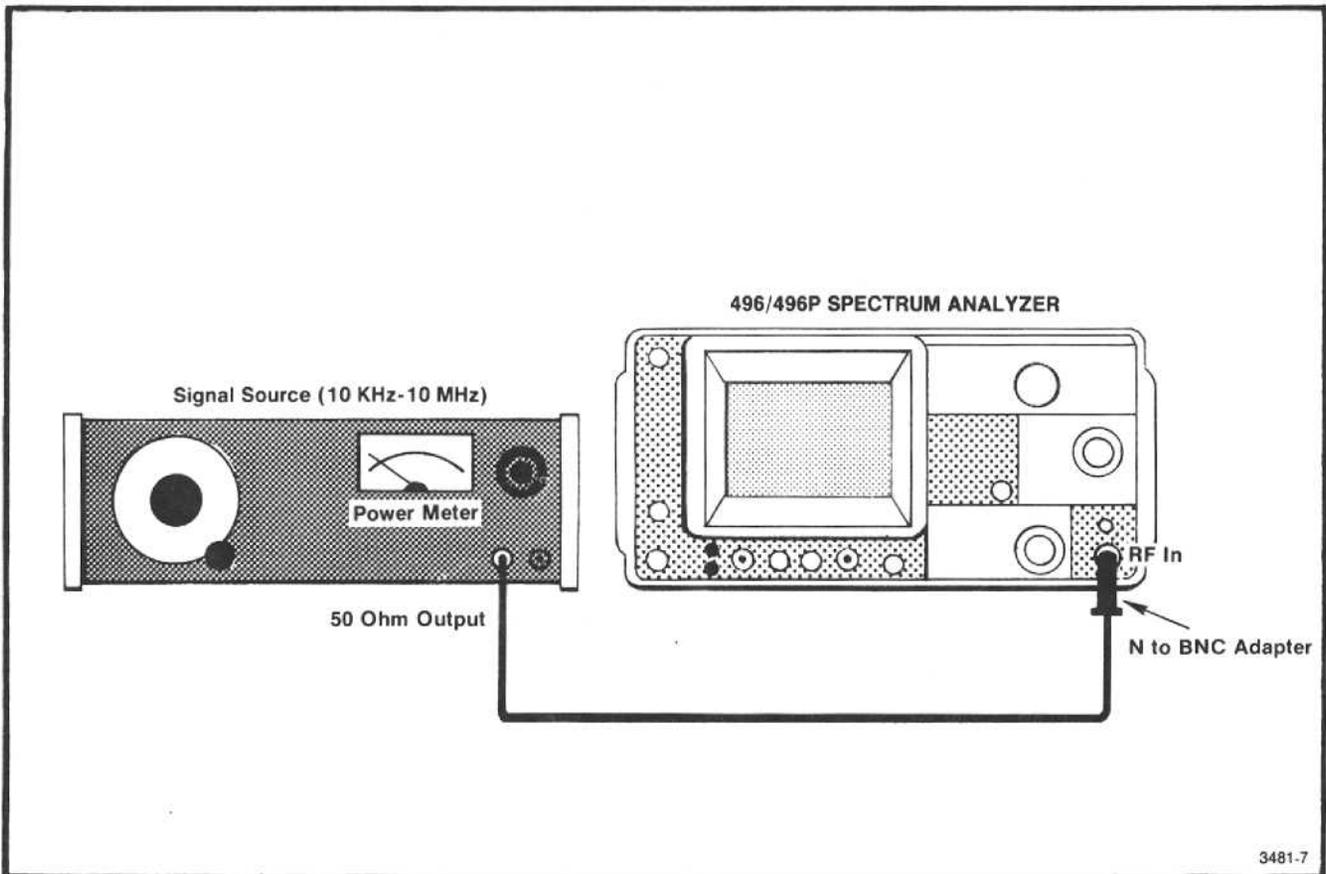

Fig. 3-5. Test equipment setup for checking the 0-10 MHz frequency response.
a. Test equipment setup is shown in Fig. 3-5. Set the front-panel controls as follows: